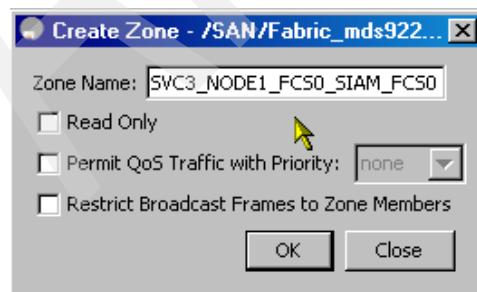

Figure 6-58 Naming a new zone
2. Name the new zone and apply specific properties for the zone such as *Read Only*, *QoS*, and *broadcast frame restrictions*, as shown in Figure 6-58. We name the zone SVC3_NODE1_FCS0_SIAM_FCS0 with default zone properties and click **OK**.